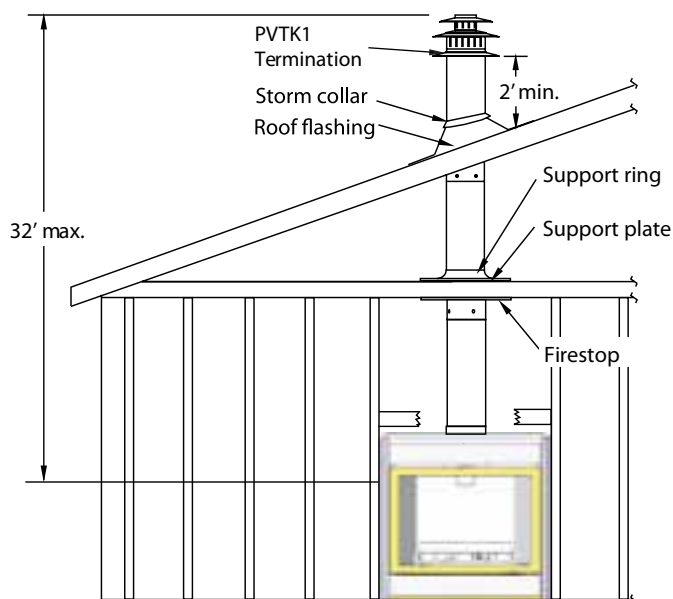

Figure 11. Top vent, Roof mounted termination with no offset in vent run.
- The Vertical termination must be a minimum 2' higher than where the termination exits the roofing materials, (asphalt shingles, cedar shakes, etc). This distance should be measured from the high side of the roof slope where the flue flashing intersects the roofing materials. (see **Figures 11 to 11c ***).